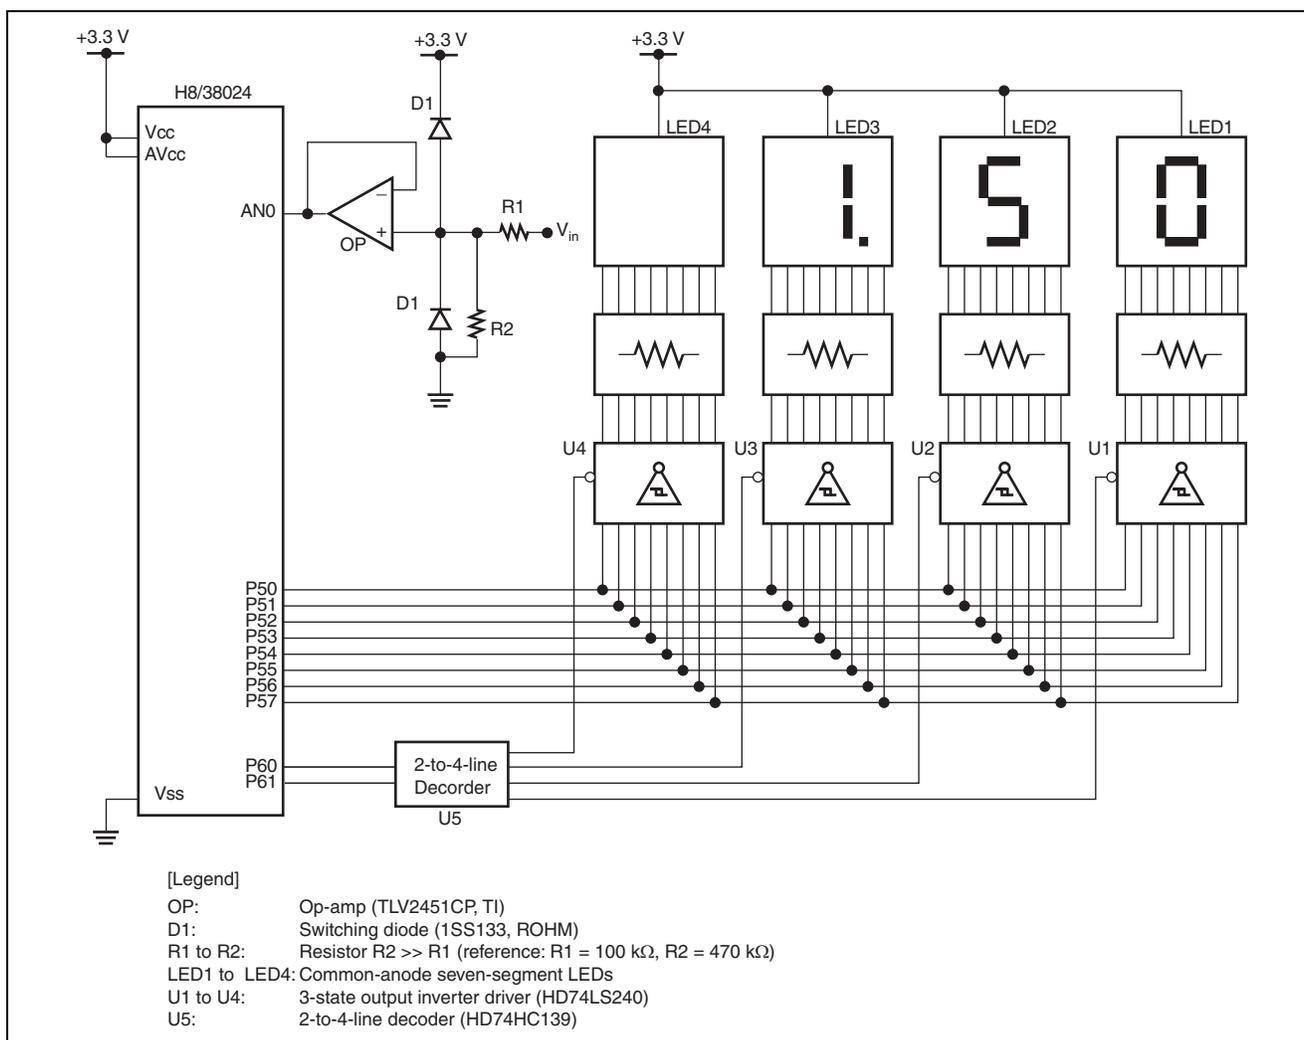

Figure 1.1 Hardware Configuration
1. Figure 1.1 shows the hardware configuration of DC voltage measurement. An op-amp is connected to analog input pin 0 (pin AN0) as shown in the figure.